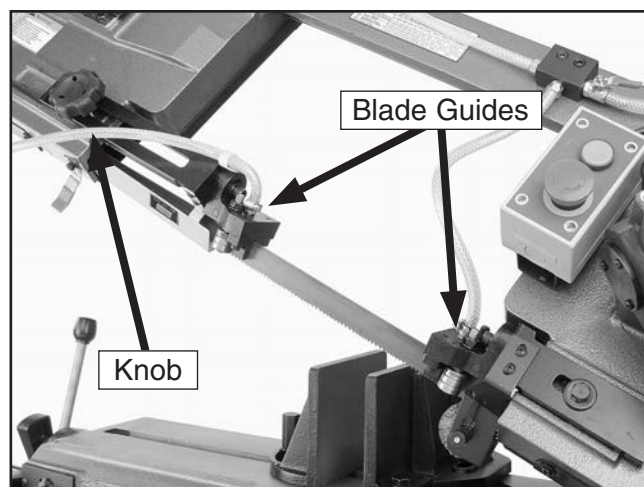

Figure 34. Blade guides.
1. Loosen the knob shown in **Figure 34** and slide the rear blade guide as close to the workpiece as possible, then tighten the knob.